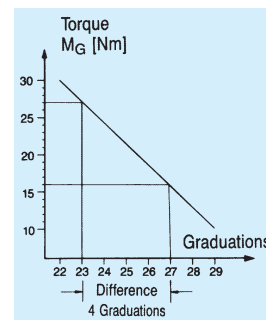

Fig. 3
- Manually screw on adjusting nut (1) until contact is made with the cup springs (7).
- Continue turning until the 4 graduations (5) at the circumference of the adjusting nut (1) and the notches in the retaining ring (6) are in line with each other.
- Using a face wrench, turn the adjusting nut (1) through the number of graduations corresponding to the required torque (fig. 3) (number of graduations as per setting diagram).
- The graduations at the circumference of the adjusting nut (5) and retaining ring (6) must remain in the same position.
- Put Loctite 242 onto the retaining screw (2) and screw it into the adjusting nut (1).